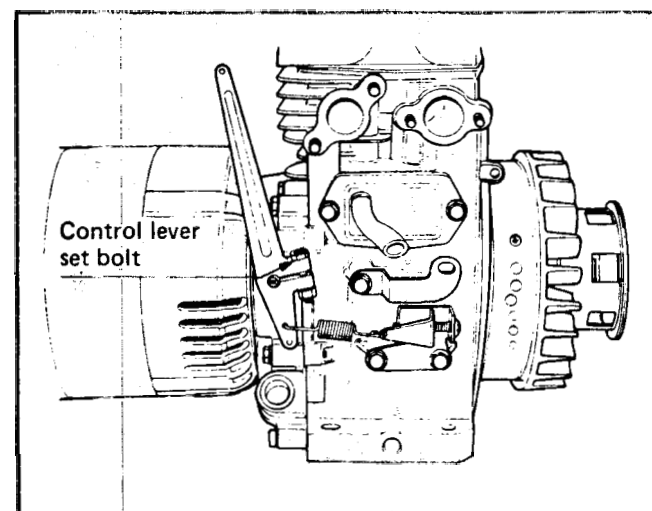

Figure 120
36. Install the governor arm (throttle control lever) and the governor spring bracket. Tighten the governor arm screw only temporarily at this time. See Figure 120.